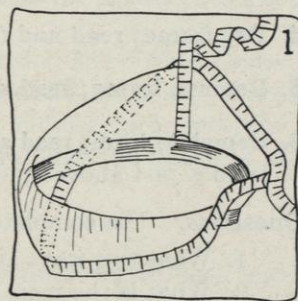

FIG. 1.
- a. Measure the edgewire and the width of the frame in the widest part (see Figure 1) and jot down these measurements.